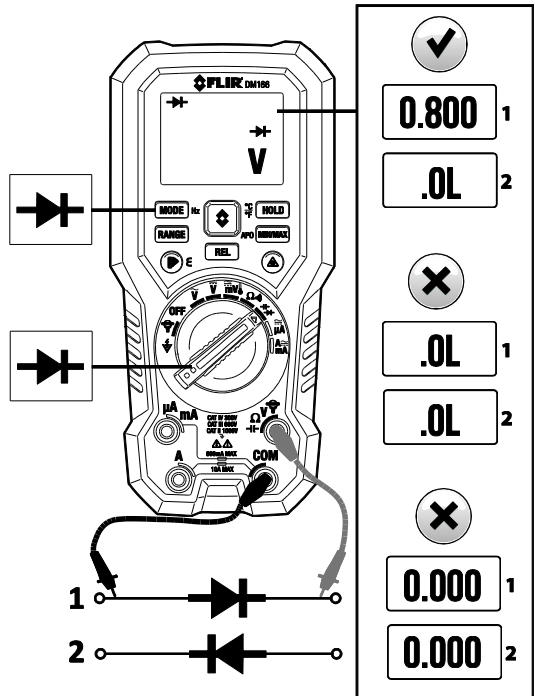

Fig. 6-5 Diode Test
3. Touch probe tips across the diode or semiconductor junction under test in one polarity (direction) and then in the opposite polarity as shown in **Fig. 6-5**.